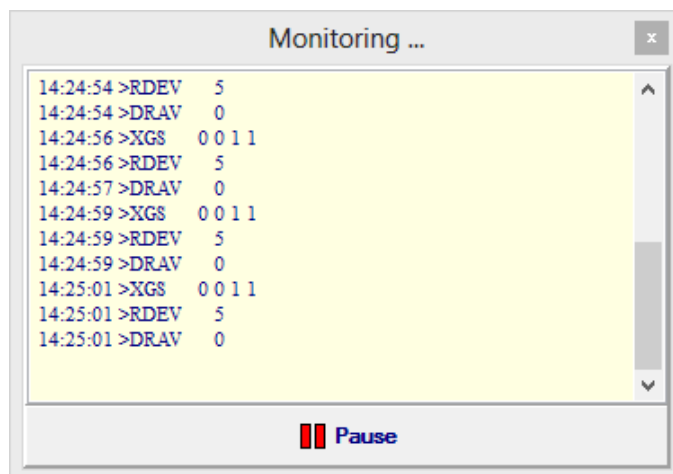

Fig.95 Monitoring
- to display the diagnostic information, select item **Monitoring**. The **Monitoring** window will be opened (Fig.95).